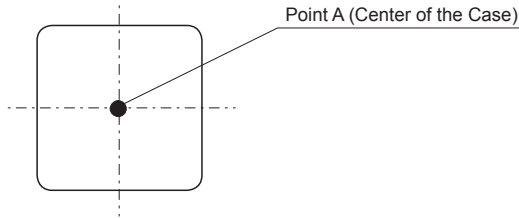

Fig.7.3 Temperature Measuring Point on the case (Top View)
■ Please have sufficient ventilation to keep the temperature of point A in Fig 7.3 at Table 7.1 or below.